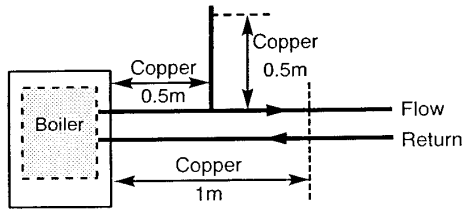

Fig. 4a
3. In systems using non-metallic pipework it is necessary to use copper pipe for the boiler Flow and Return. The copper must extend at least 1 metre from the boiler and include any branches (Fig. 4a). The copper pipe must not be insulated.